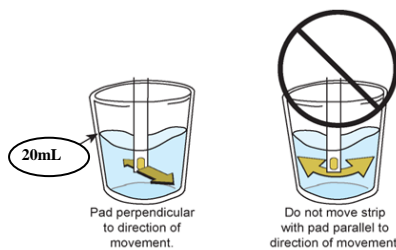

Figure 1
5. Move the strip back and forth at a constant gentle rate of two (2) strokes per second, a stroke distance of approximately 1-2 inch wide strokes (one forward – one backward) per second as shown in (Figure 1).
5. Move the strip back and forth for **40 seconds**, at a constant gentle rate of two (2) strokes per second, a stroke distance of approximately 1-2 inch wide strokes (one forward – one backward) per second as shown in (Figure 1).